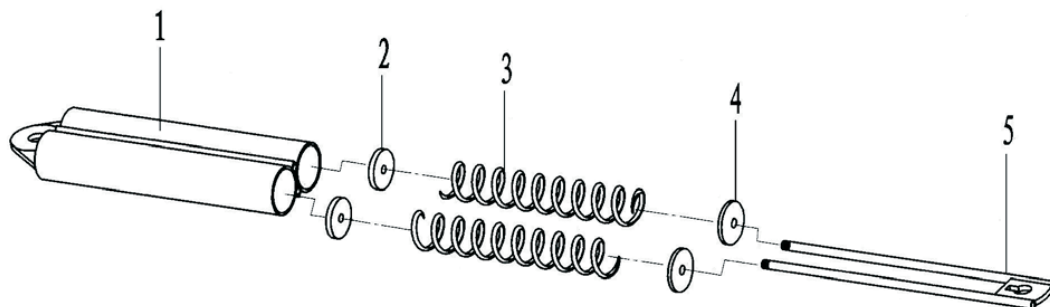

Fig.18
7.16-1 Assembly of spring lifter (Fig 18, Table 18)